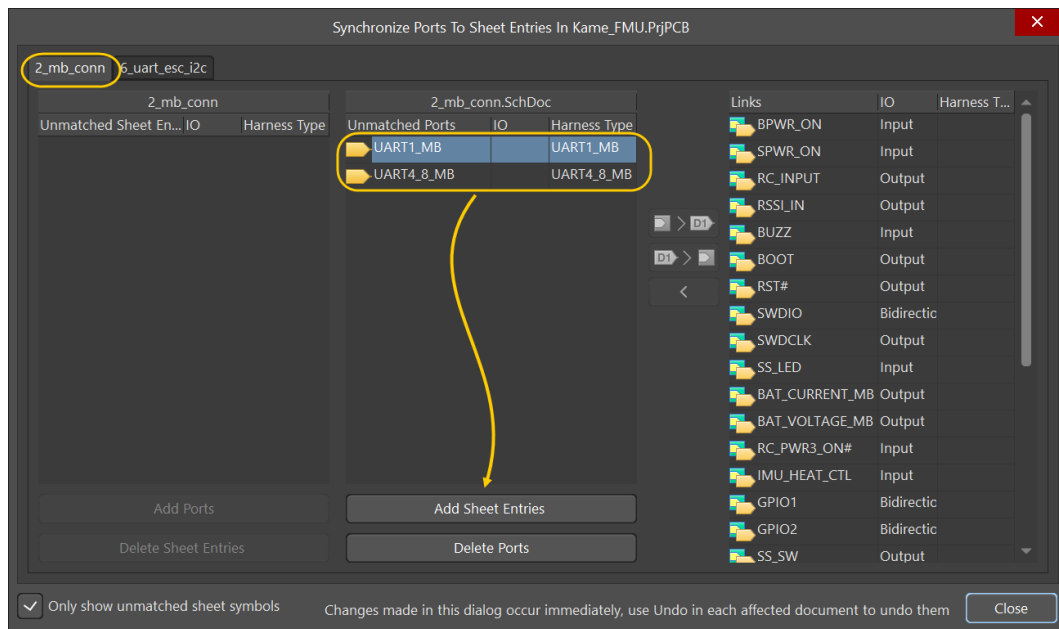

Figure 28. Placing Sheet Entries for 2_mb_conn
68. Select the 2_mb_conn tab, as shown in Figure 28.